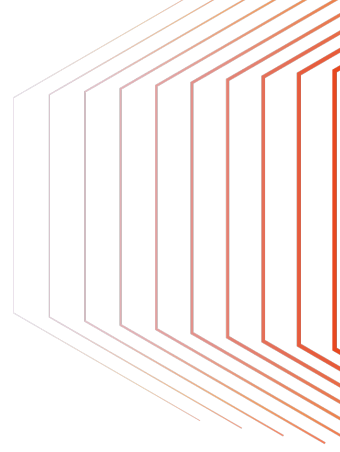

Figure 33. Insert the Connection Module.
13. Align the Connection Module guide pins with the holes in the MSA Base. See Figure 33.